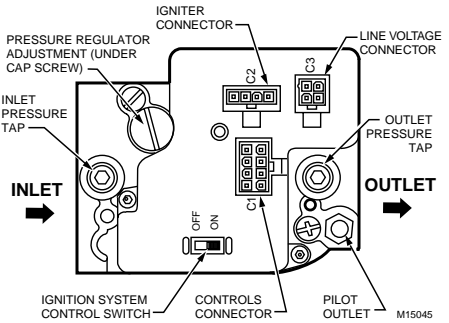
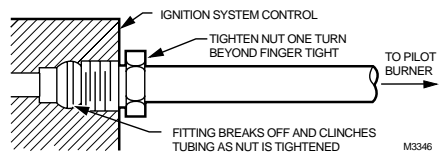

Fig. 4. Top view of ignition system control.
Fig. 6. Always use new compression fitting.
wrench on the flange rather than on the ignition system control. Refer to Fig. 4 and 5.
3. Unscrew the brass compression fitting from the pilot outlet (Fig. 4). Slip the fitting over the tubing and slide out of the way. See Fig. 6
1. Remove pilot adjustment cover screw. See Fig. 4.
- With main burner operating, check the ignition system control flow rate using the meter clacking method or check pressure using a manometer connected to the outlet pressure tap on the ignition system control. See Fig. 4.